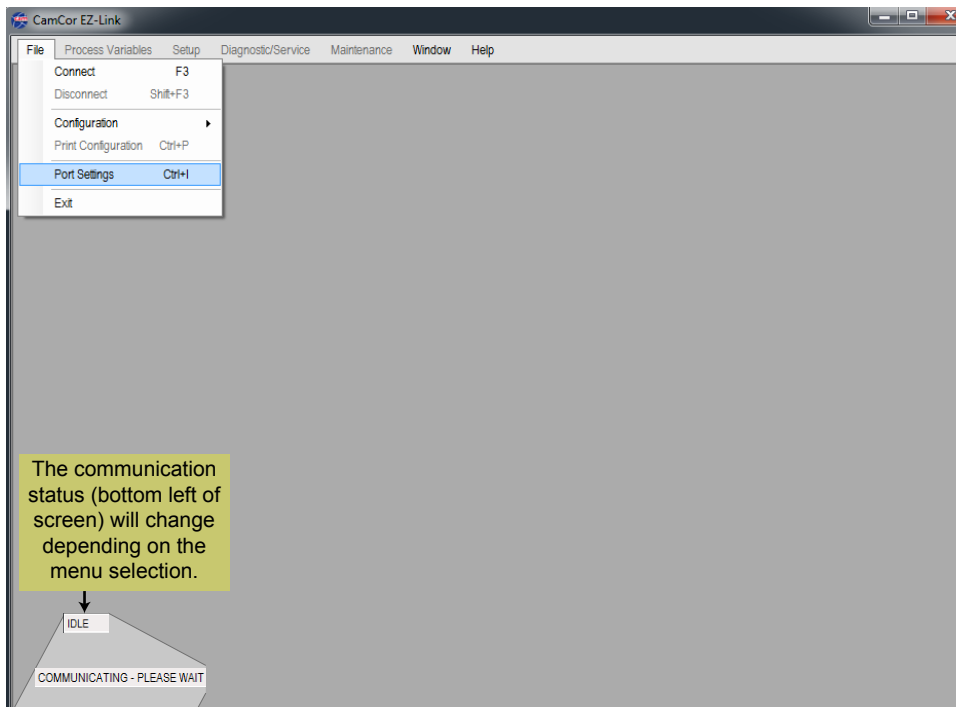

Figure 1.2—EZ-Link workspace and File menu
2. Select **File>Port Settings**, as shown in Figure 1.2, page 2.